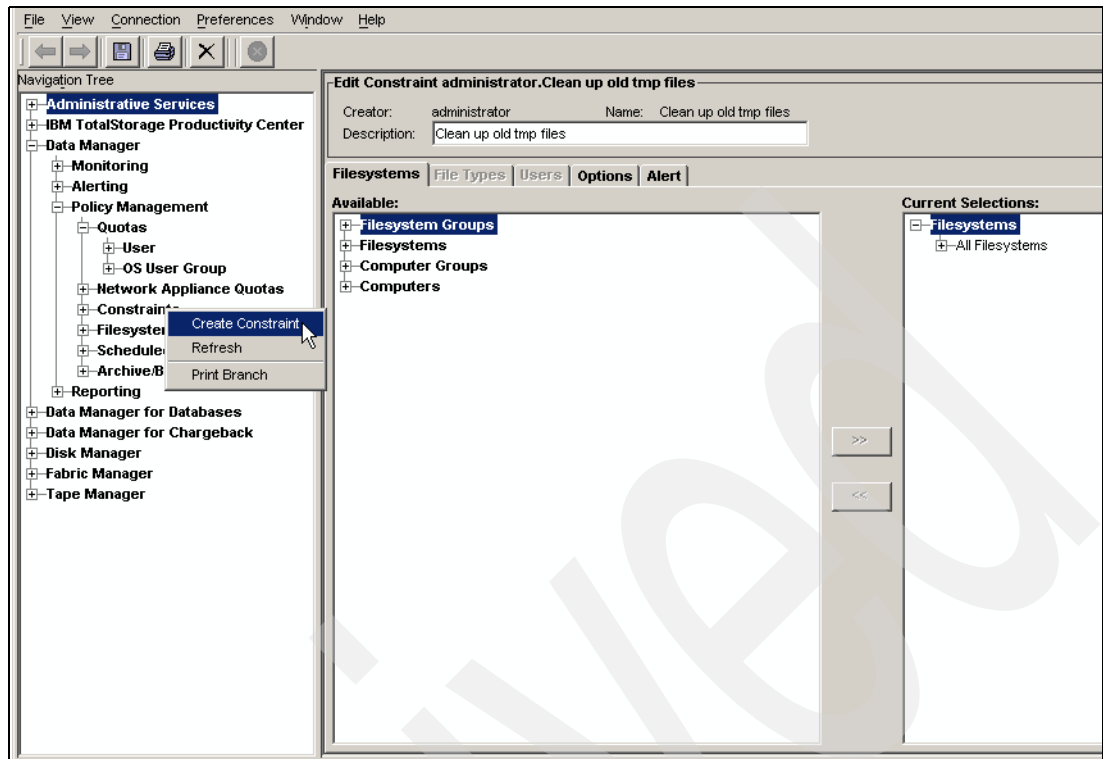

Figure 2-28 Create constraint for tmp files
2. Start by naming your constraint and selecting the filesystems against which you want your constraint to run. The example in Figure 2-28 on page 35 shows all filesystems have been selected. If you have a multi-platform environment, select only the Windows machines, because this example is specific to Windows only.